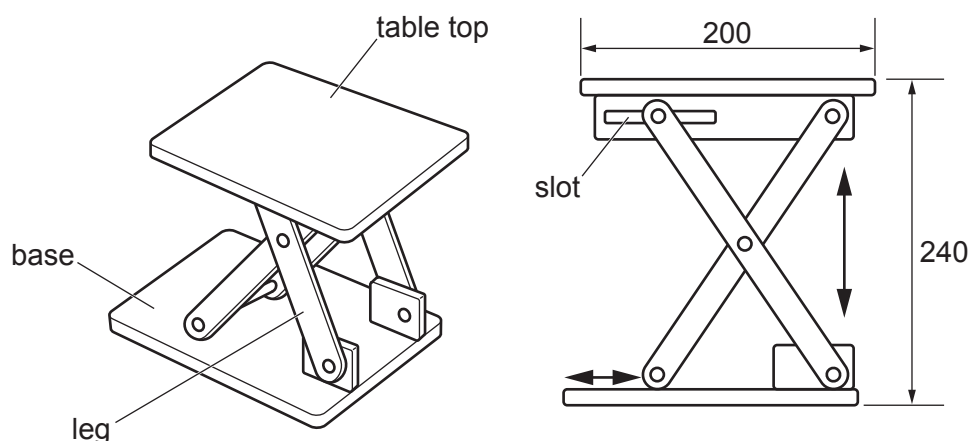

Fig. 3.1
- 3 Fig. 3.1 gives details of a model of a height adjustable table which is to be made in a school workshop.